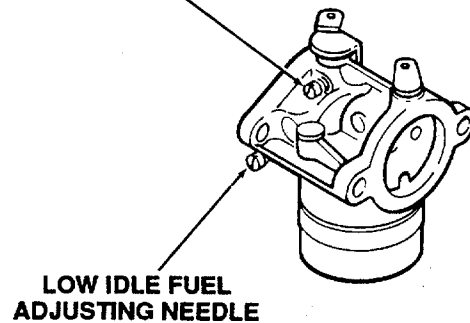

Figure 17
Adjust the carburetor idle fuel mixture in the order stated as follows (Refer to Figure 17):
2. **Idle Speed Setting:** Place the throttle control into the "idle" or "slow" position. Set the low idle speed to **1200 rpm** (± 75 rpm) by turning the low idle speed adjusting screw in or out. Check the speed using a tachometer (See Figure 17).